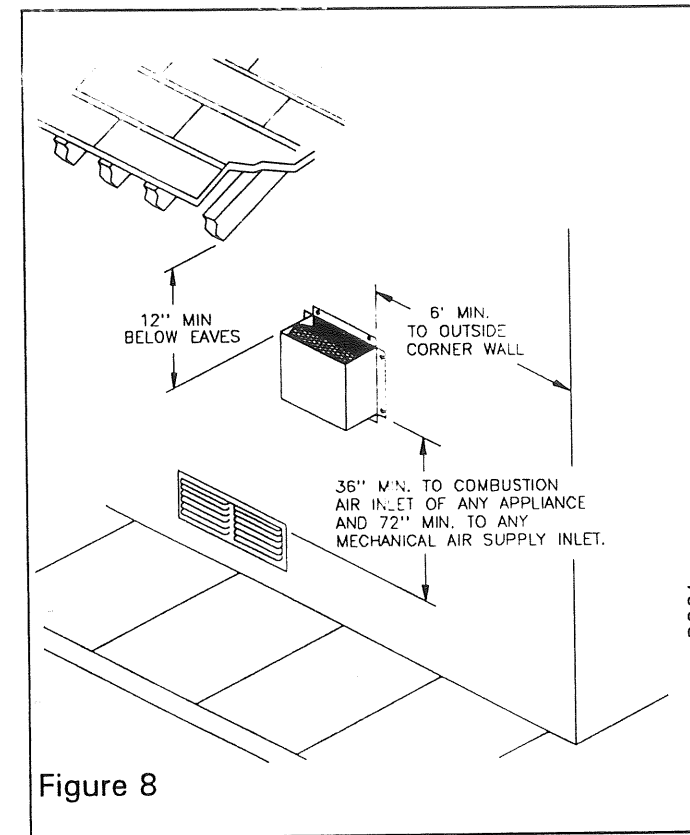

Figure 8
4) If an offset is necessary in the attic to avoid obstruction, it is important to support the vent pipe every 3 feet, to avoid excessive stress on the elbows, and possible separation see figure 8.